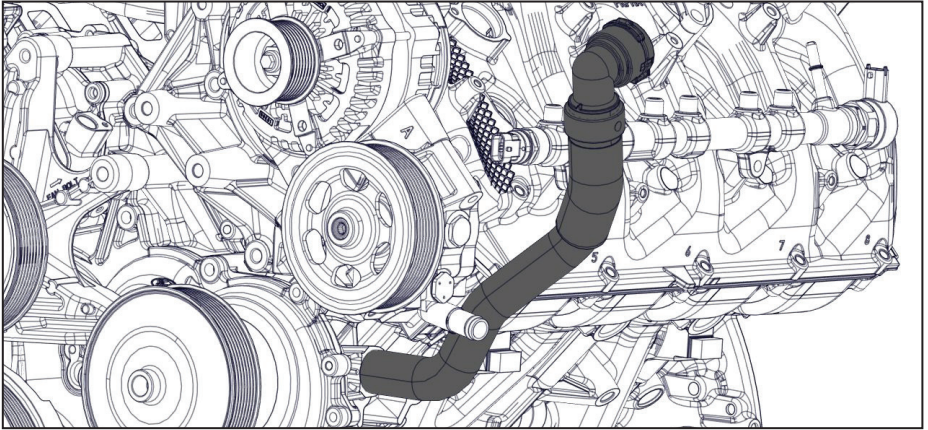

Figure 11 — Remove the primary drain-back hose
- ☐ Remove the primary drain-back hose running between the engine and the OEM degas bottle (Figure 11).